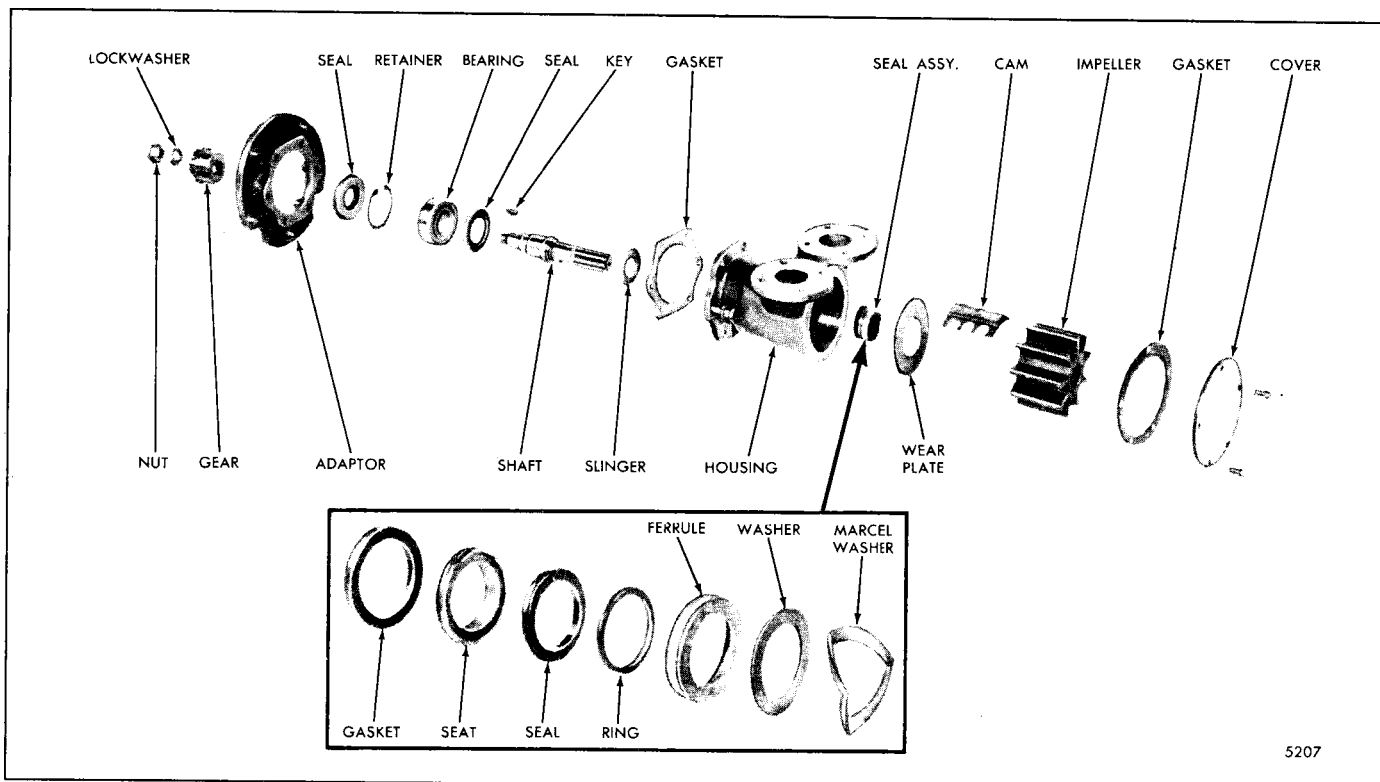

Fig. 3 – Raw Water Pump Details and Relative Location of Parts (Bronze Cam Design)
1. Remove the cover screws and lift the cover and gasket from the housing (Fig. 3).
Refer to Fig. 3 and disassemble the pump as follows: